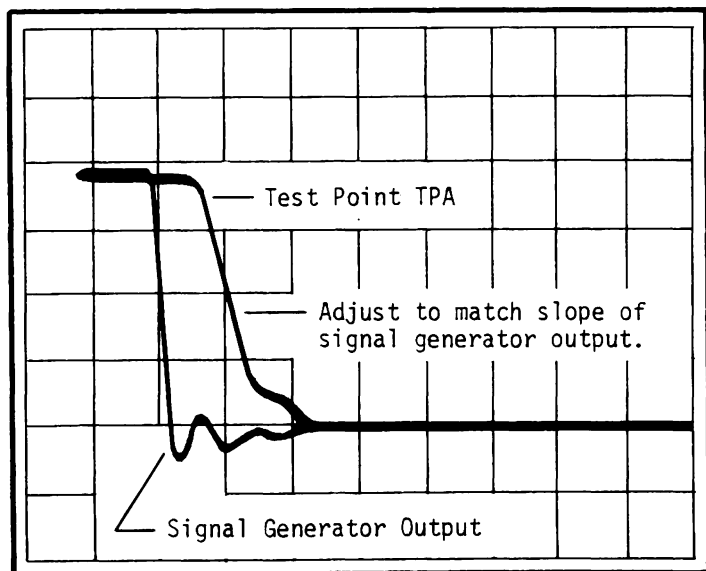

Figure 4 - Unacceptable Response
7. Adjust C16 (Figure 3) until the slopes of the signal generator output and test point TPA are identical. (See Figures 4 and 5.)